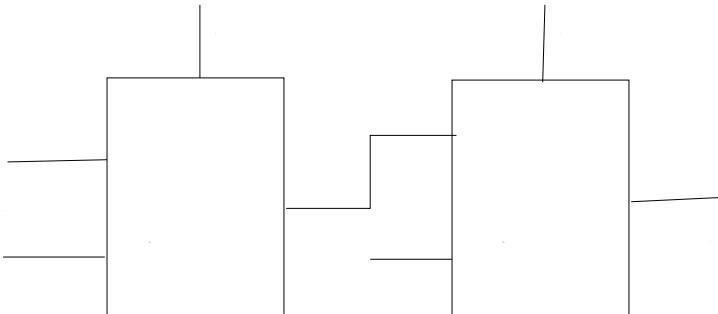

Fig. 4.17
31. The output F of the digital circuit shown in Fig. 4.17 can be written in the form(s) \_\_\_\_\_ (GATE IN 2022)